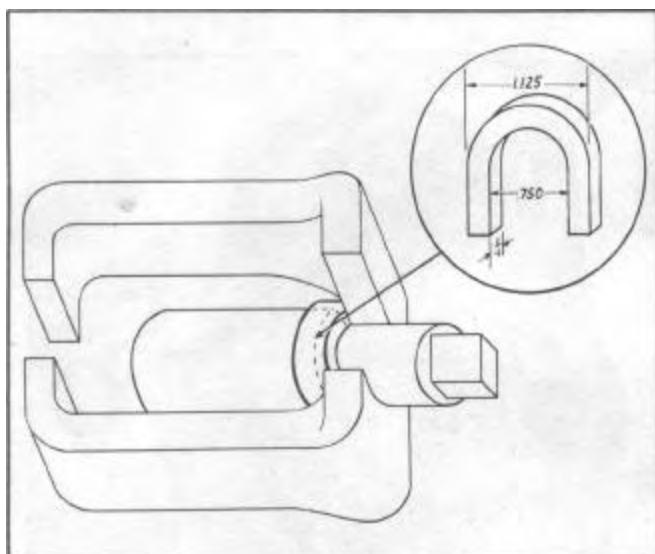

FIGURE 10
To adapt the J-2795 Brake and Clutch Pedal Remover for the "A" series pedal rods it will be necessary to add a horseshoe washer 1/4" thick with a slot milled in the washer. The opening in the washer must be large enough to enter over remover adapter; for specifications see Figure 10.
7. Clean the exposed portion of all hand brake cables and then pull the cables through conduit from the wheel end to expose that part of cable that is sheathed by the conduit. Clean this portion of the cable and lubricate freely with viscous chassis grease. Figure 10.